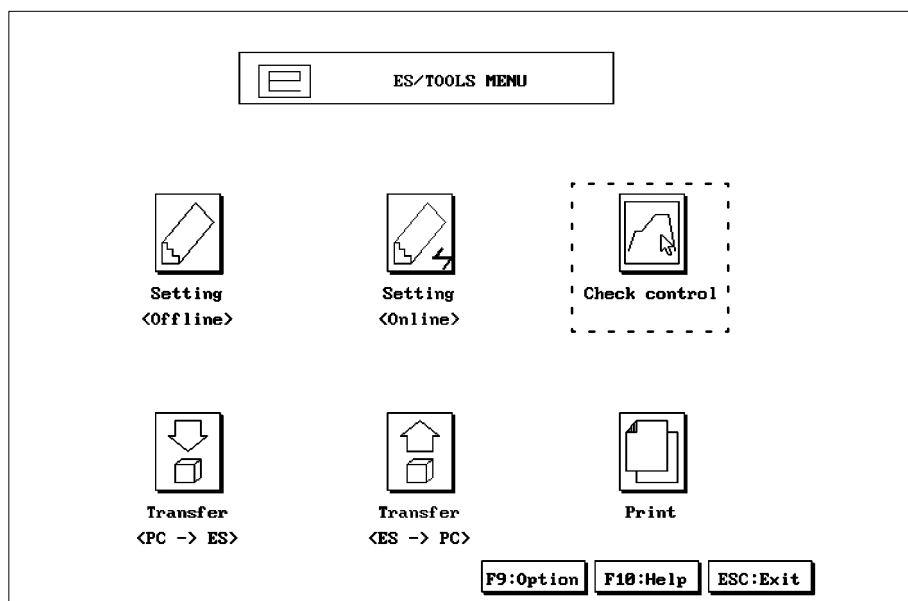

Figure 10
1. Select the **Check control** icon from the ES/TOOLS menu by double-clicking on it (Figure 10). The **Check control** menu appears